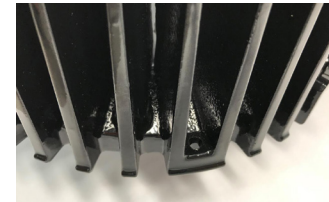

FIGURE 3
2. Locate attachment point in between two (2) of the housing fins, as shown in Figure 3.